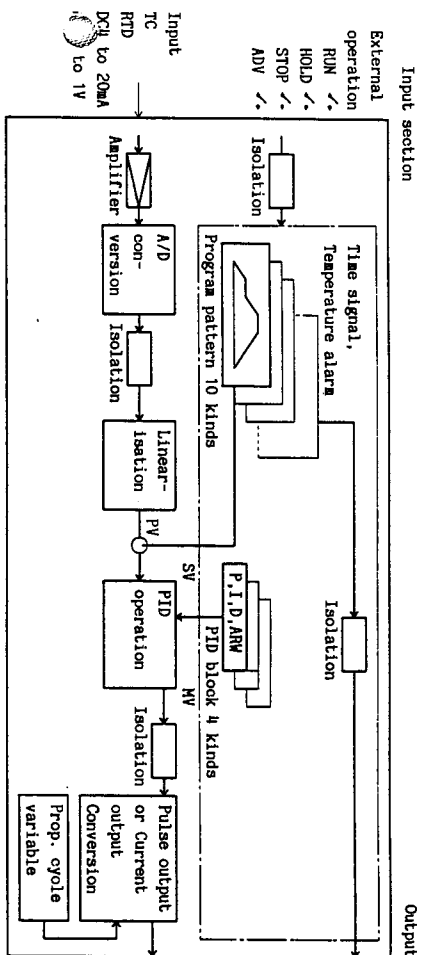

Fig. 5.1 Block diagram
Block diagram of this instrument is shown on Fig 5.1. This instrument is a digital programmable controller based on a microcomputer. This instrument can store 10 kinds of program patterns and 10 steps per pattern (total 100 steps), and it has many functions such as External operating input and Fixed value control, besides its original controlling functions. The action is: Program, such as Pattern setting or PID setting, which has been set by key operation becomes RUN situation by key operation or External operation input. Then, SV value of the specified pattern No. (operated at any time by the specified temperature and time) operated by PID together with A/D conversion and PV value linearised. The manipulating variable (MV) operated by PID is converted into the switching signal or the current signal and is converted by pulse conversion circuit.